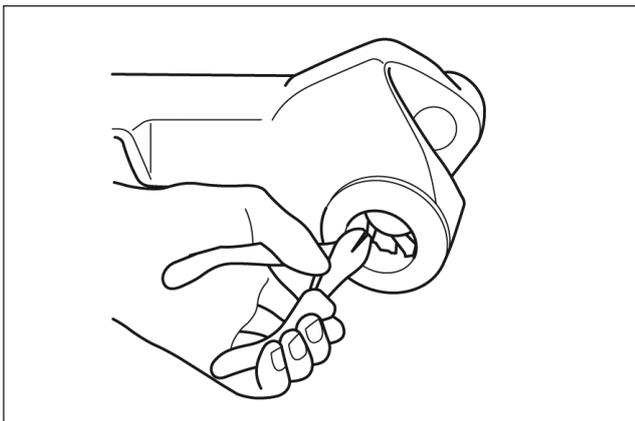

Fig. 4.7
15. If required, remove the upper and lower king pin bushings. To facilitate removal, locate the king pin bushing seam and fold it over. Pull the edge with an appropriate tool.- Fig. 4.7